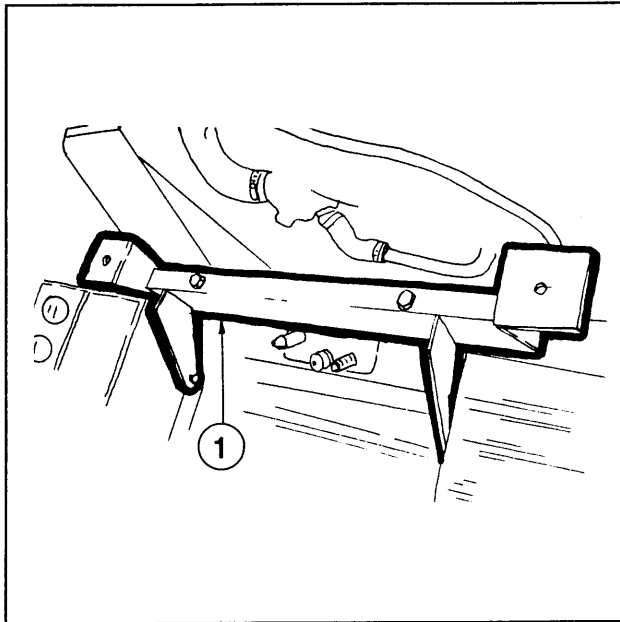

Figure 1
2. Tilt the seat forward. Take the rear bracket (1) and position it where the factory ROPS was located. Loosely bolt the bracket to the unit using the 5/8"x7" hex bolts, hex nuts, and lockwashers supplied. Anchor the front of the bracket to the unit using the 12x20x1.75mm hex bolts and 1/2" flatwashers, lockwashers provided. (see Figure 1)